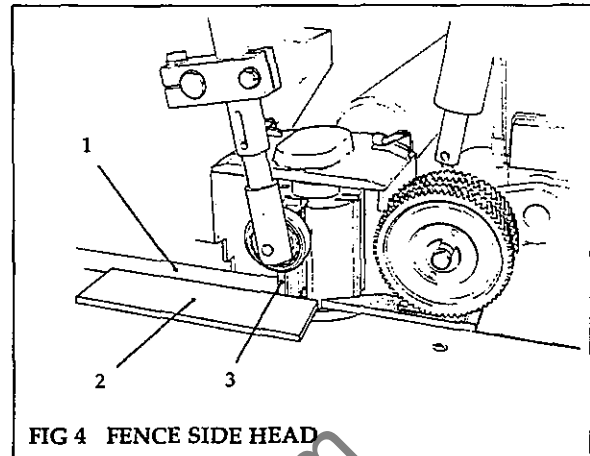

FIG 4 FENCE SIDE HEAD
#### Fence Side Head (Fig 4).
**NOTE:** The fence is set at the same time as Fence Side Head (see Figs 4 and 10). Also, there is no edge reference cutter.